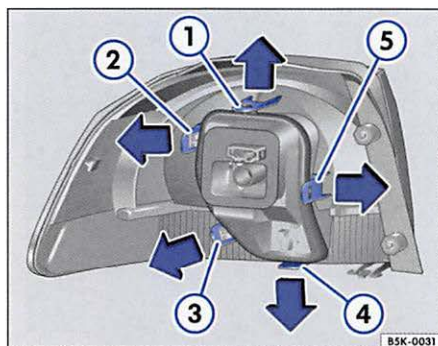

Fig. 198 Taillight in the body of the vehicle: Removing bulb holder. ① to ⑤: Locking lugs.
7. To unlock the bulb holder, press the locking lugs $\Rightarrow$ fig. 198 ① to ⑤ in direction of the arrow.